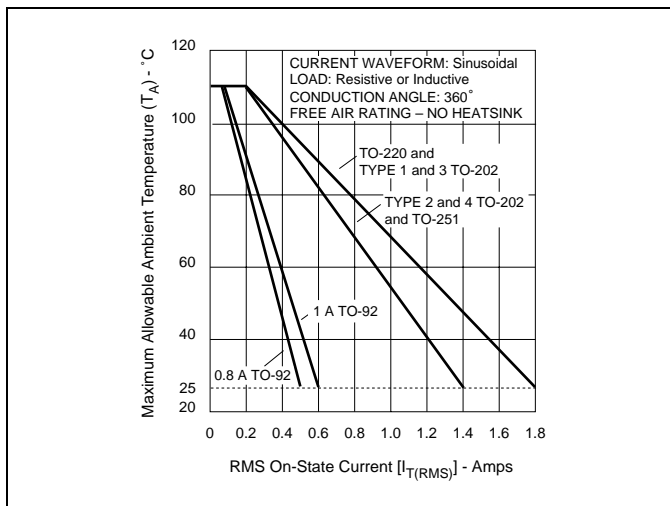

Figure E1.1 Maximum Allowable Ambient Temperature versus On-state Current
- (11) See Figure E1.1, Figure E1.2, and Figure E1.3 for  $T_A$  or  $T_C$  versus  $I_{T(RMS)}$ .
- (12) See package outlines for lead form configurations. When ordering special lead forming, add type number as suffix to part number.
- (13) Pulse width  $\leq 10 \mu s$
- (14)  $T_C$  or  $T_L = T_J$  for test conditions in off state
- (15) Minimum non-trigger  $V_{GT}$  at  $110^\circ C$  is 0.2 V.